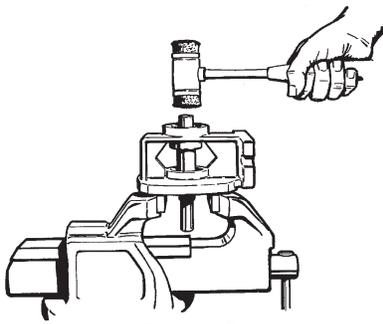

Figure 4-19
Refer to Figures 4-19 and 4-20 for reference to the numbered parts in the procedures below.
4. Place the pedestal, pump side down, on the jaws. Refer to Figure 4-19.